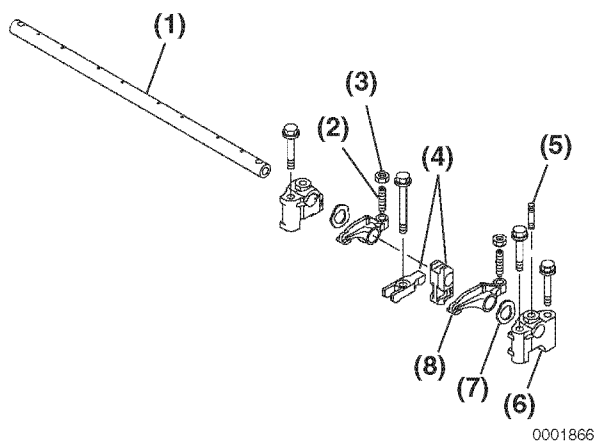

Figure 6-72
3. Lubricate the rocker arm shaft. Slide the rocker arm supports (Figure 6-72, (6)), wave washers (Figure 6-72, (7)), rocker arms (Figure 6-72, (8)), and fuel injector retainers (Figure 6-72, (4)) onto the shaft.
Note: To properly align the rocker arm shaft with the rocker arm shaft supports, first reinstall one of the end rocker arm supports (**Figure 6-72, (6)**) with a hole for the shaft alignment stud (**Figure 6-72, (5)**). Align the hole in the rocker arm shaft and the hole in the rocker arm support bracket. Reinstall the alignment stud.
Note: **Figure 6-72** shows components for one cylinder. Components for all remaining cylinders are assembled in the same order.
4. Position the rocker arm assembly on a flat surface. Reinstall the alignment studs (**Figure 6-72, (5)**).
6. If removed, reinstall the valve adjusting screws (**Figure 6-72, (2)**) and lock nuts (**Figure 6-72, (3)**).